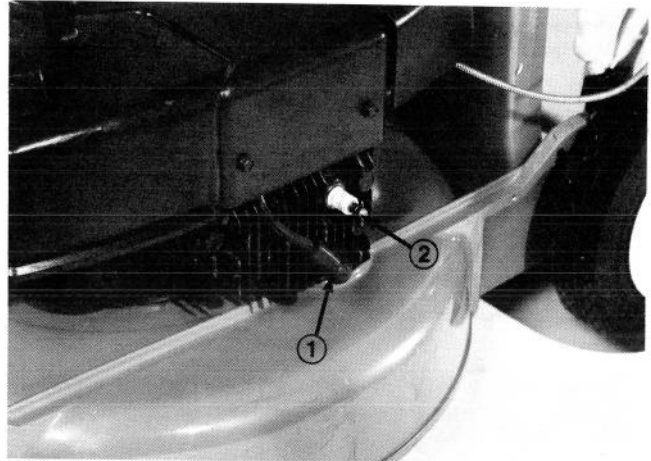

Figure 30
2. Clean area around spark plug so foreign matter does not fall into cylinder when plug is removed. Remove plug from cylinder head (Fig. 30).